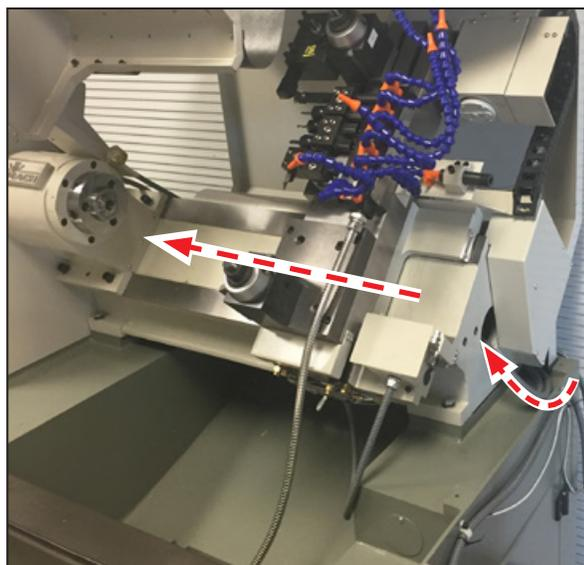

Figure 2.26
- b. Through the access hole in the lathe bed casting toward the spindle (see **Figure 2.26**)